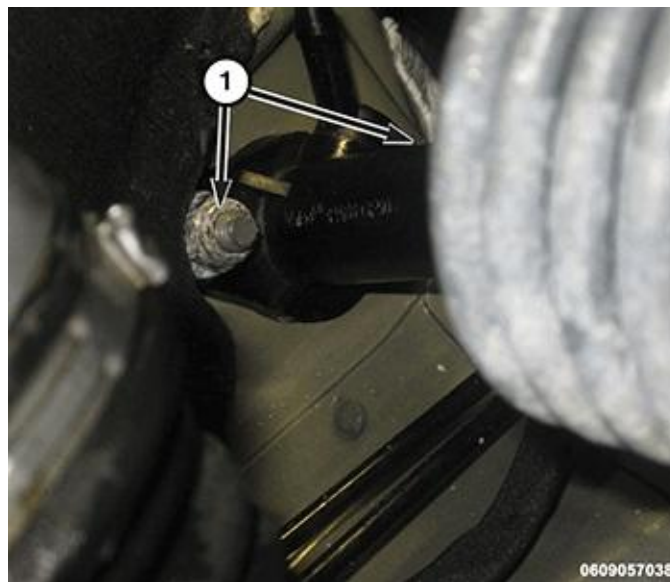

Fig. 9 Clutch Master Cylinder Nuts
9. Install the two hydraulic clutch master cylinder nuts (4) and tighten to the proper (Torque Specifications) (Fig. 9).